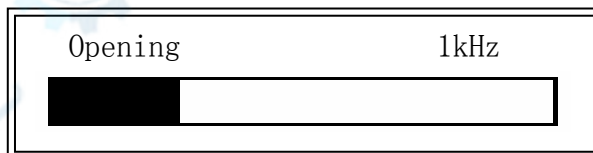

Figure 4-21. Open Correction Information
- 3) Press **OpSWP**. TH2816A will measure the open admittance (capacitance, and inductance) at all frequency points. Figure 4-21 shows the open correction information.